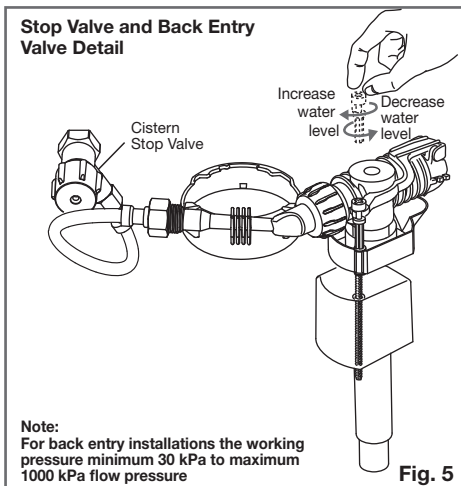

Fig. 5
- 4- Fit Cistern Stop Valve (supplied) to the 1/2" B.S.P. nipple in the wall using approved thread seal, in the downward angled position as detailed in **Fig. 5**. Connect one end of flexible hose to cistern stop valve.
- 7- Adjust water level to the 4.5 litre water level mark inside the cistern by simply turning the float arm screw in a clockwise or anti-clockwise direction as detailed in **Fig. 5**.